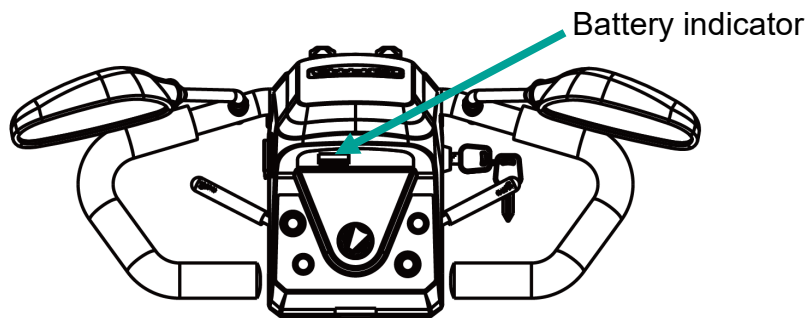

Figure 7.7
7.9.3 Push the backrest forwards to fold the backrest. (See Figure 7.7)
7.11.1 When the ignition is turned on, the battery indicator will light up with a possible total of three red, four orange and three green lines indicating the remaining power of the batteries. (See Figure 7.7.) The positive (+) sign under the green lines indicates that the batteries are fully charged. The negative (-) sign under the red lines indicates that the batteries are (nearly or) out of power.